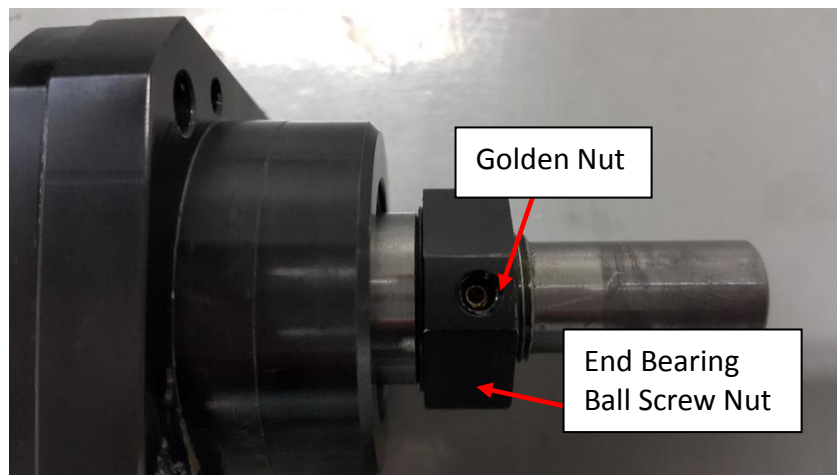
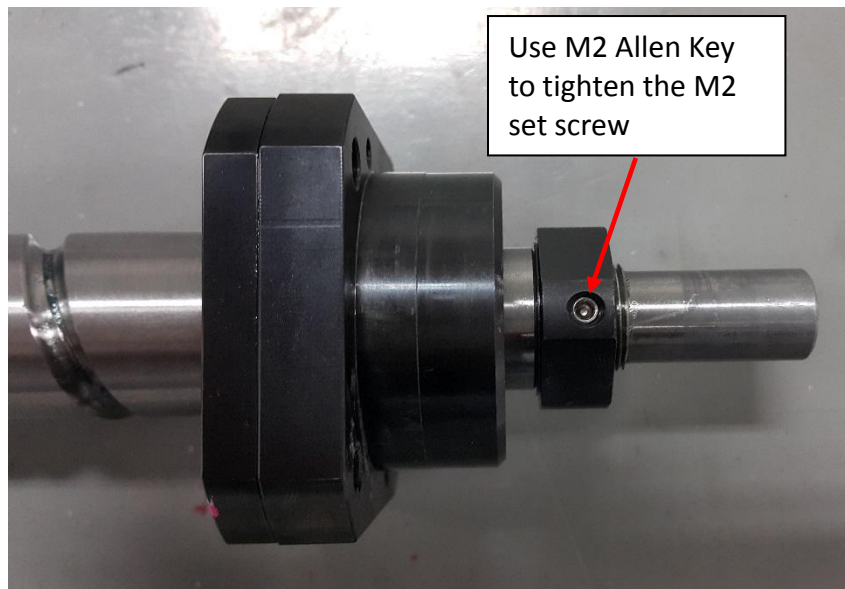

Figure 44 Golden Nut
Figure 45 M2 Set Screw
35. Insert the golden nut into the End Bearing Ball Screw Nut as Figure 44. Next, use M2 Allen key to tighten M2 set screw as Figure 45.